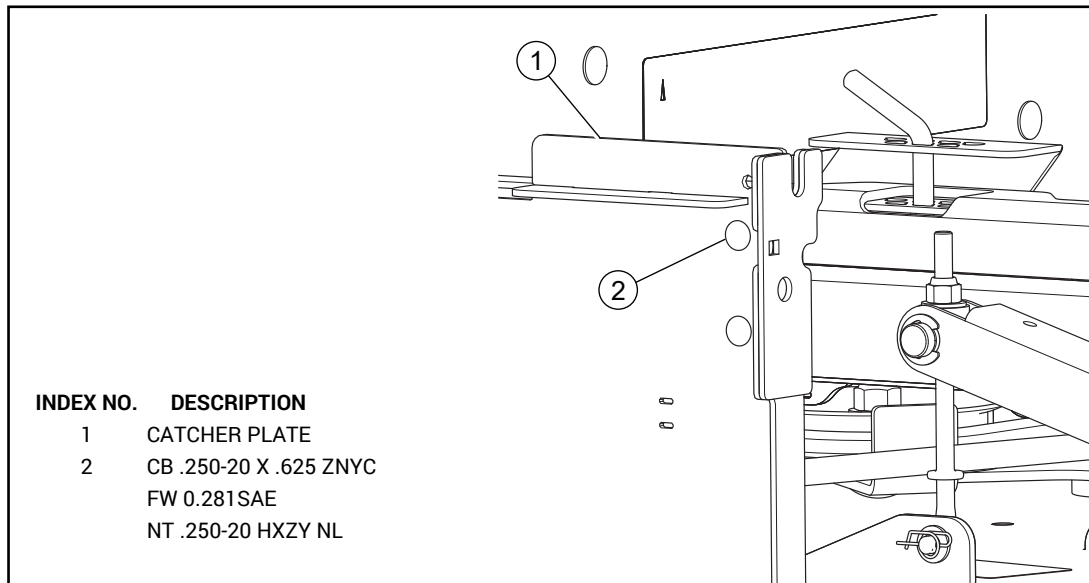

FIG. 3
3. Remove the top set of existing hardware from the catcher plate as shown. Fig. 3